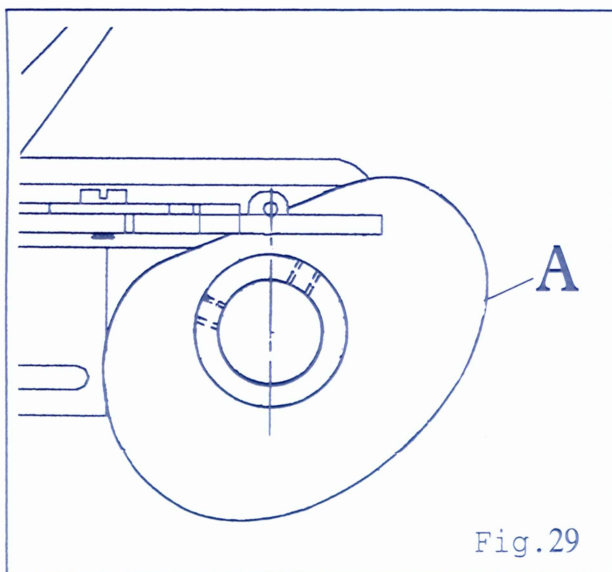

Fig. 29
1. When the Needle Bar lift to the highest position, the flat of Looper Thread Take-Up (A) touch the thread while it locates at 45 degree. The Looper Thread Take-Up should be set at middle of channel. (Fig 29)